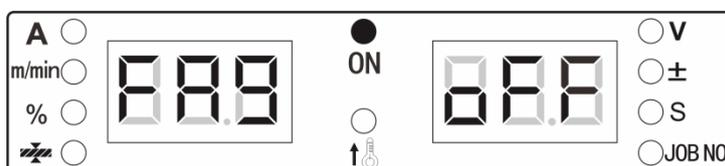

Fig. 4-8 FA9 display interface
- Enter the internal menu and find FA9 by turning the knob. The digital meter is as displayed in Fig.4-8.